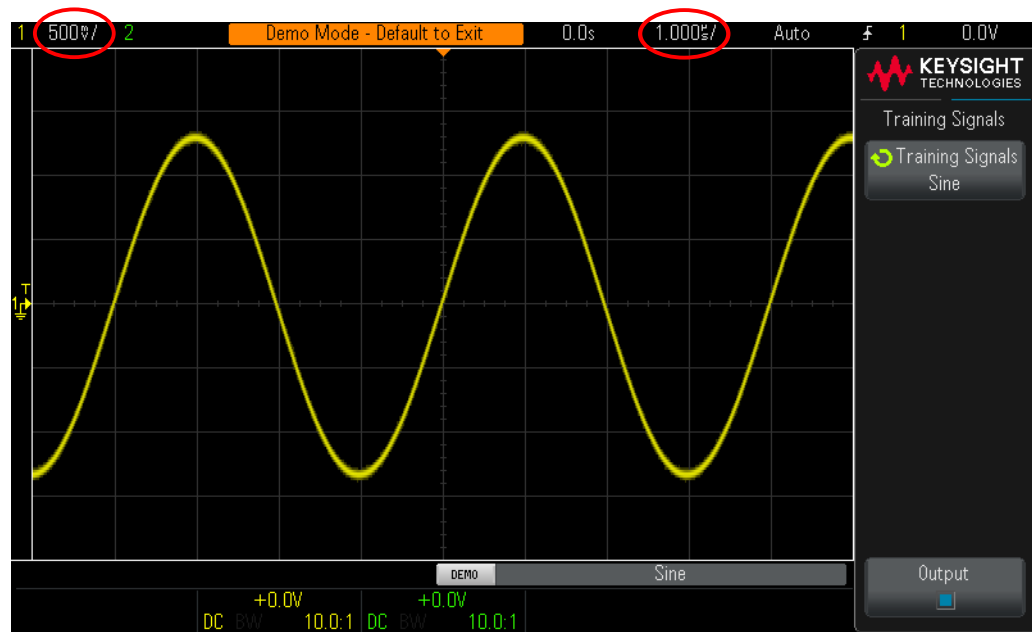

Figure 9 Initial setup to view the sine wave training signal
- 7 Turn the s/div knob (large knob in the Horizontal section) clockwise until you observe more than two periods of a sine wave across the display. The correct setting should be **1.000 μ s/div**, which is displayed as "1.000 μ s/" near the middle of the top part of the display. Your scope's display should now appear similar to **Figure 9**. From this point forward we will simply refer to this as the scope's "timebase" setting.